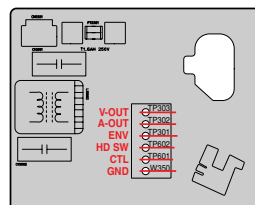

Fig. 24
- Connect the oscilloscope to the TP302 "A-OUT" (Fig. 24).
- Channel A: head switching pulse "HD SW" – TP602 (Fig. 24)
- Channel B: FM envelopes "ENV" – TP301 (Fig. 24)